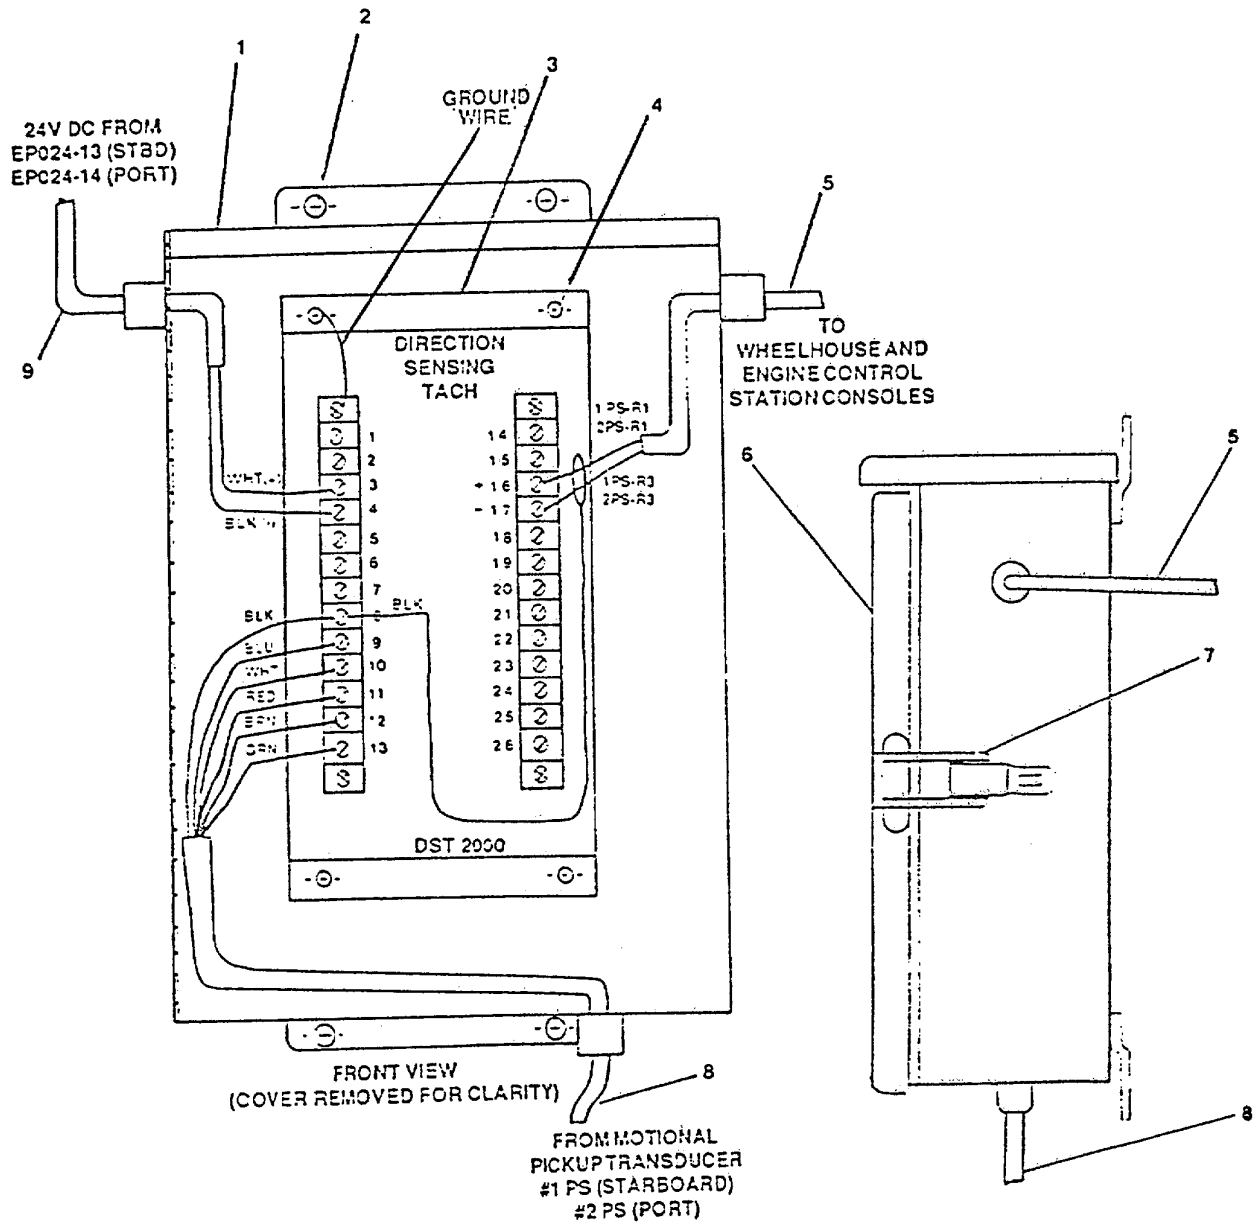

FIGURE 3-193. Electrical Self Generating (Shaft) Tachometer.
- (1) Install side plate (7) on center rim (9) as marked during DISASSEMBLY, ensuring dowel portion of torque bar (13) is seated in side plate (7) hole.
- (2) Install capscrews (6 and 8) with washers (6) and secure side plate (7).
**3-205. Replace/Repair Electrical Self Generating (Shaft) Tachometer. (Figure 3-193)**